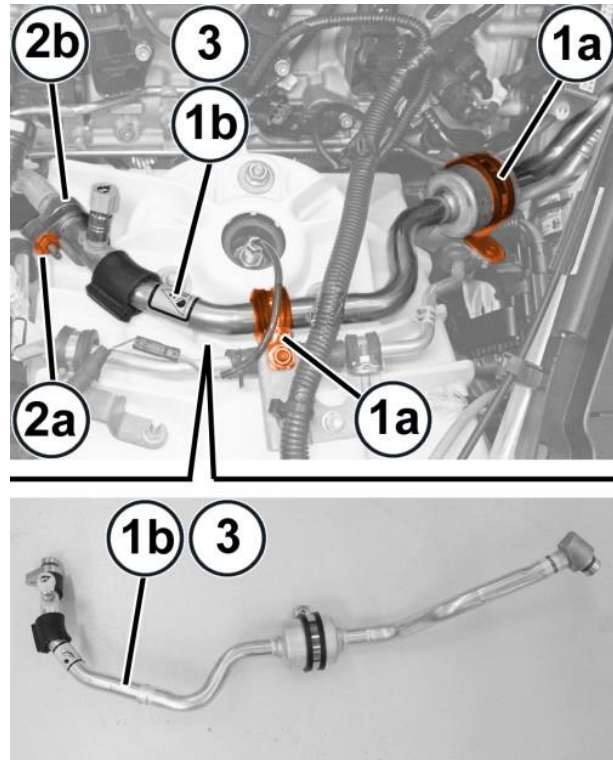

Figure 53 – Refrigerant Pipe
39. Unscrew the attaching nuts and open the retaining straps (1a) from the pipe (1b) to be removed (Figure 53).
40. Remove the nut (2a) and disconnect the connector (2b) from the pipe (1b) (Figure 53).
41. Remove the pipe (1b) (Figure 53).